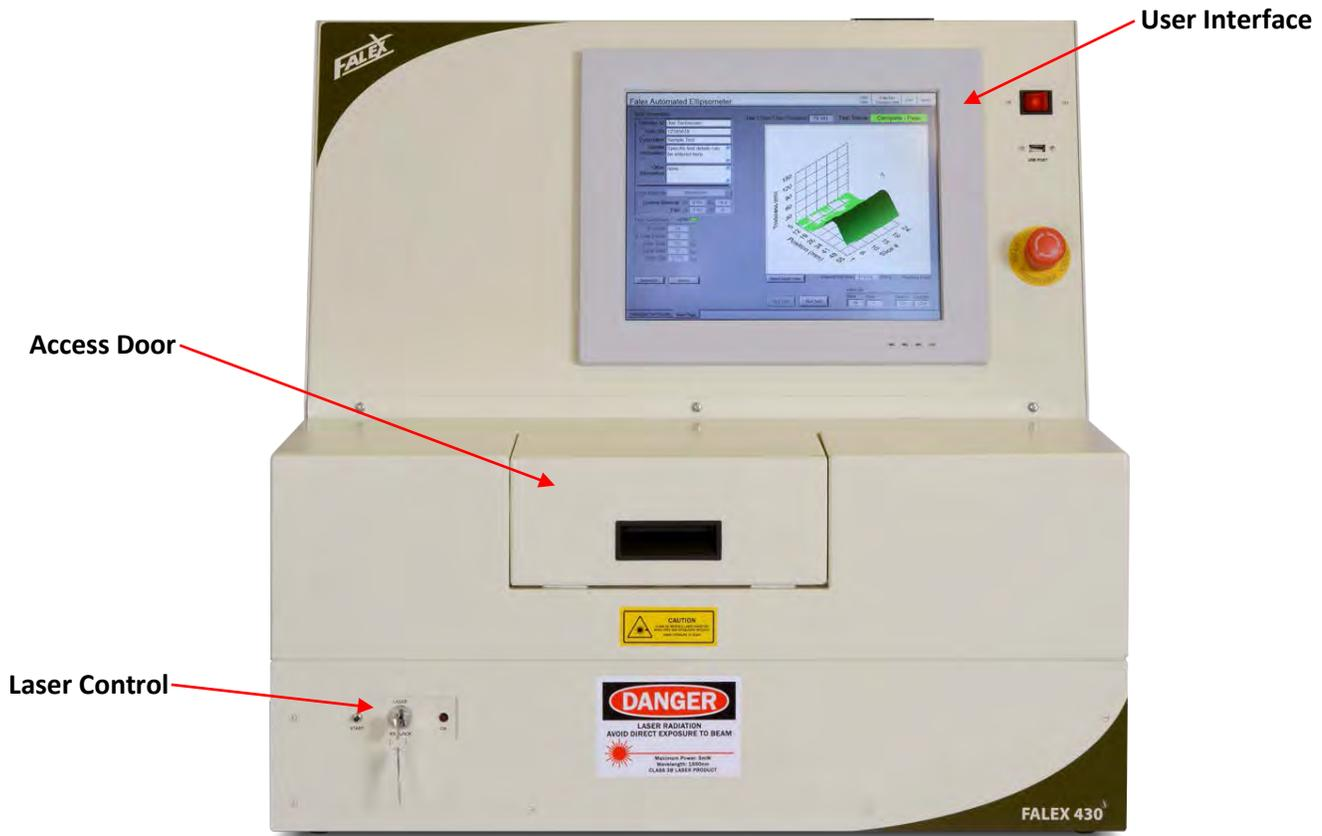

Figure 1 - Areas of Machine
Falex Ellipsometer functionality consists of three (3) main areas (figure 1).